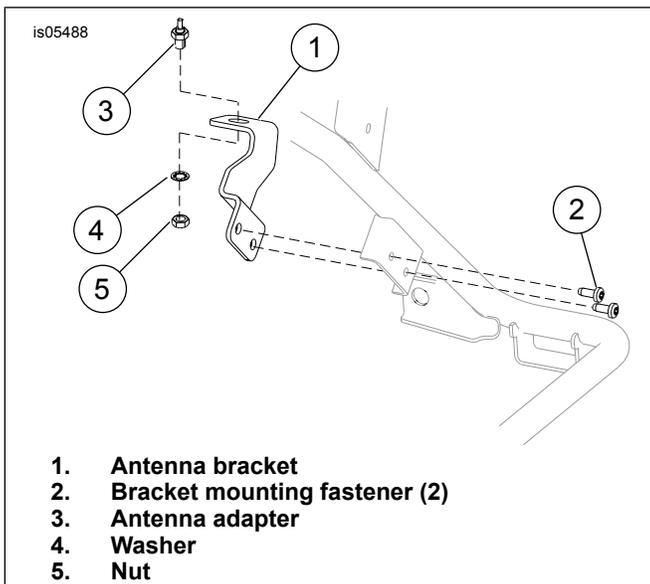
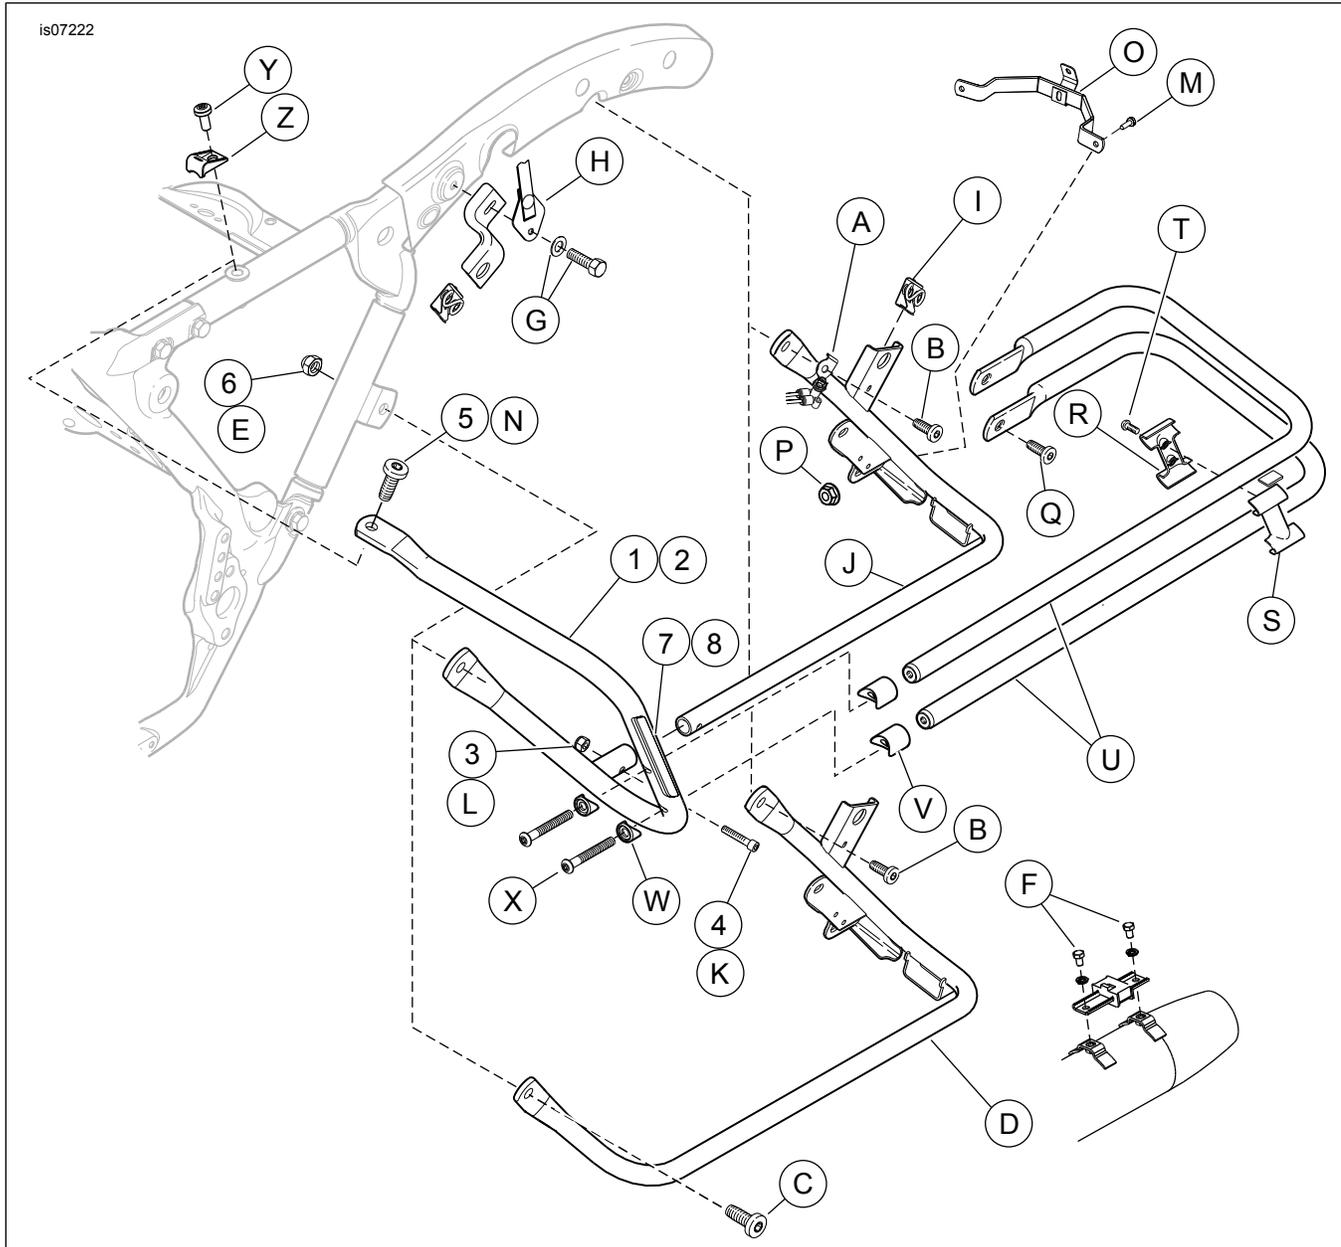

Figure 1. Remove Antenna and Bracket
Figure 3. Service Parts: Saddlebag Guard Kit (Left Side Shown)
See Figure 3 and Table 1.
2. See Figure 3. Remove grab strap screw and washer (G). Remove grab strap (H). Remove seat following the instructions in the service manual.
3. If equipped, remove seat bumper (Z) and screw (Y).
1. See Figure 3. Remove the screws (F) securing saddlebag guards to muffler supports.
2. Remove bolt (M) and nut (P). Save bolt (M) for installation. Discard nut (P).
3. Remove screws (B, N and C) and nut (E). Save screws (B and C) for installation. Discard nut (E) and screw (N).
4. Remove stud receptacle (I) and save for installation.
5. See Figure 1. Remove antenna bracket (1), mounting fasteners (2), antenna mounting nut (5), washer (4) and antenna adapter (3). Save the antenna and hardware, discard the bracket.
6. Remove support (D) and discard.
1. **For FLTR and FLHX Models:** See Figure 3.
- a. Install the rear saddlebag support mounting screw (B) through the air suspension bracket (A) and saddlebag support (J). Install screw finger-tight.
- b. Install bolt (M) and nut (P) (purchased separately). Tighten finger-tight.
- c. Install stud receptacle (I) into saddlebag support (J).